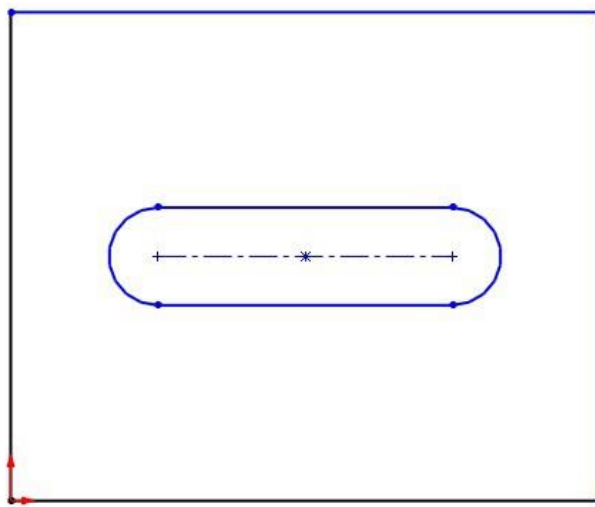

Figure 2-29 The sketch after creating the elongated hole
12. Exit the tool by right-clicking and choosing the **Select** option from the shortcut menu displayed. Figure 2-29 shows the sketch after creating the sketch of the elongated hole by using the **Straight Slot** tool.